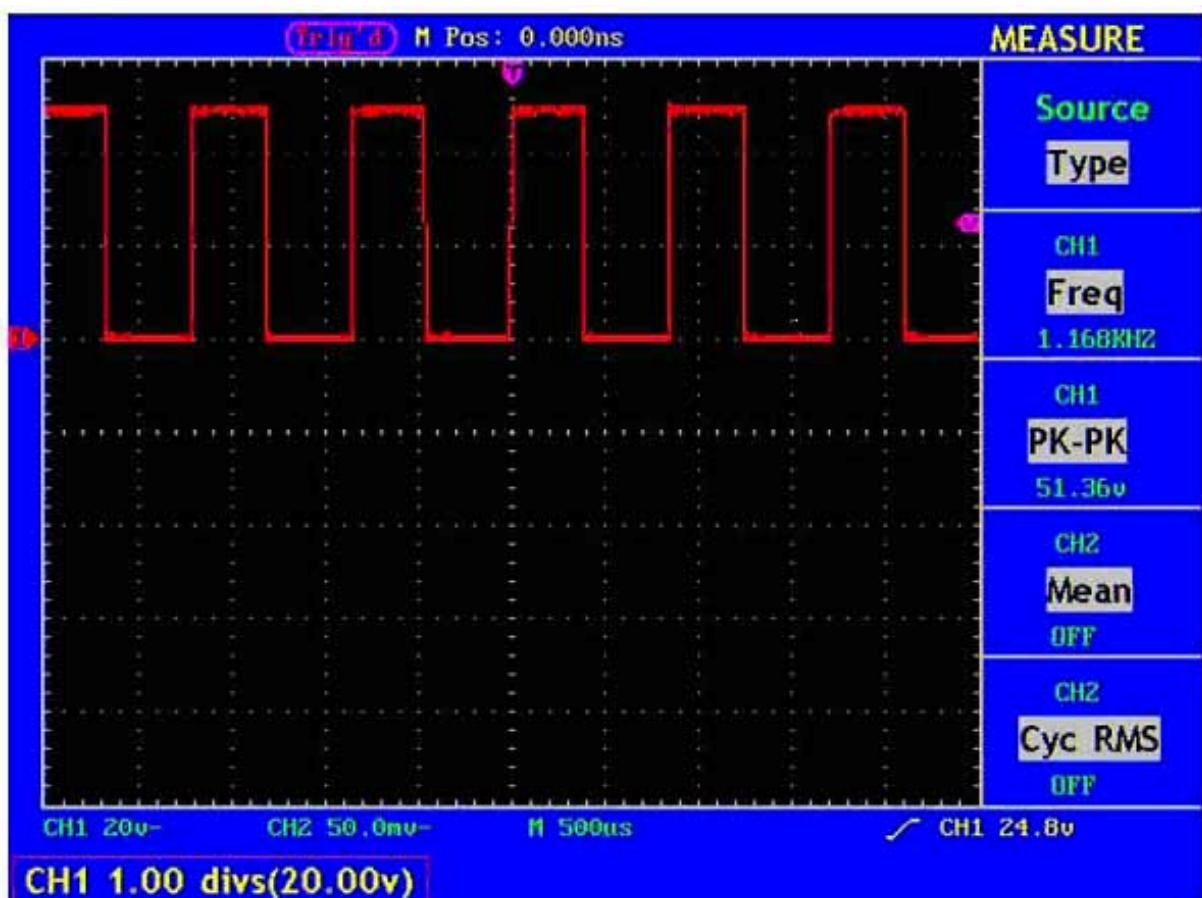

Fig. 21 Information about Vertical Position
3. When the vertical position of the channel wave form is adjusted, the screen shows the information concerning the vertical position at the lower left corner (see Fig.21).